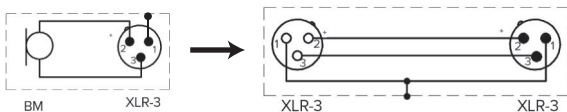

Fig. 7
2. Connect the microphone to the XLR-3 socket of the mixing console, microphone amplifier or power supply unit with the XLR-3 microphone cable (Fig. 7).